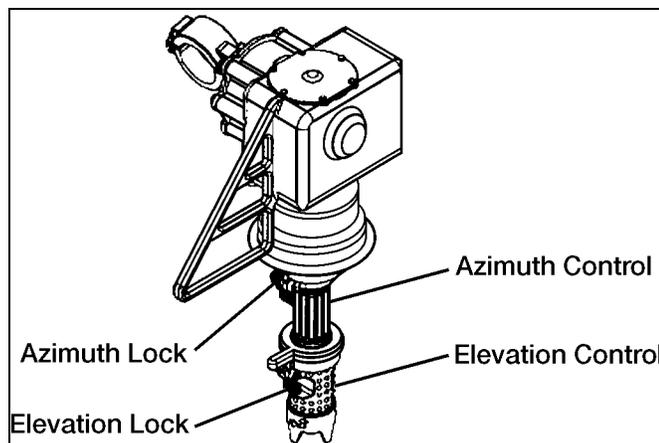

Figure 3-51. Pan and Tilt Mechanism
- h. Set azimuth position by rotating Pan/Tilt Mechanism (PTM) (see Figure 3-51) to desired setting. Lock azimuth-locking mechanism.